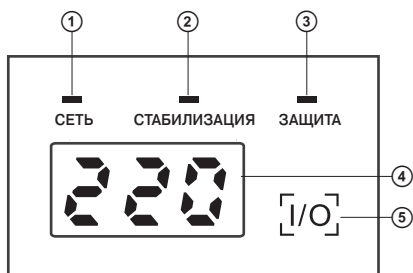

Fig. 1. Control panel
4. DESCRIPTION (see. Fig. 1, 2 and 3)
- ① СЕТЬ (NETWORK): LED (green) lights up when there is a input voltage
- ② СТАБИЛИЗАЦИЯ (STABILIZATION): LED (yellow) lights up when operating stabilizer for rise/fall if the input voltage display is turned off
- ③ ЗАЩИТА (PROTECTION): LED (red) lights up in case of accident (high/low voltage protection operation, autotransformer thermal overload), blinks at working off delay
- ④ Digital display: on default it displays output/intput voltage level (displaying accuracy $\pm 3\%$);